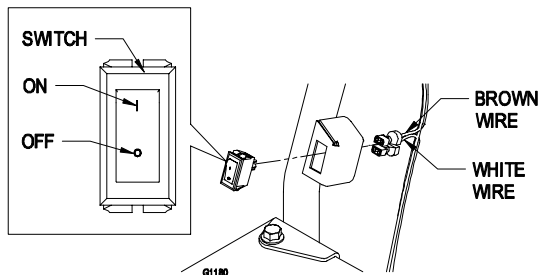

FIGURE 3
1. Orient the switch (Item 9) so the "on" position points up as shown in Figure 3. Carefully snap the switch into the bracket cutout.